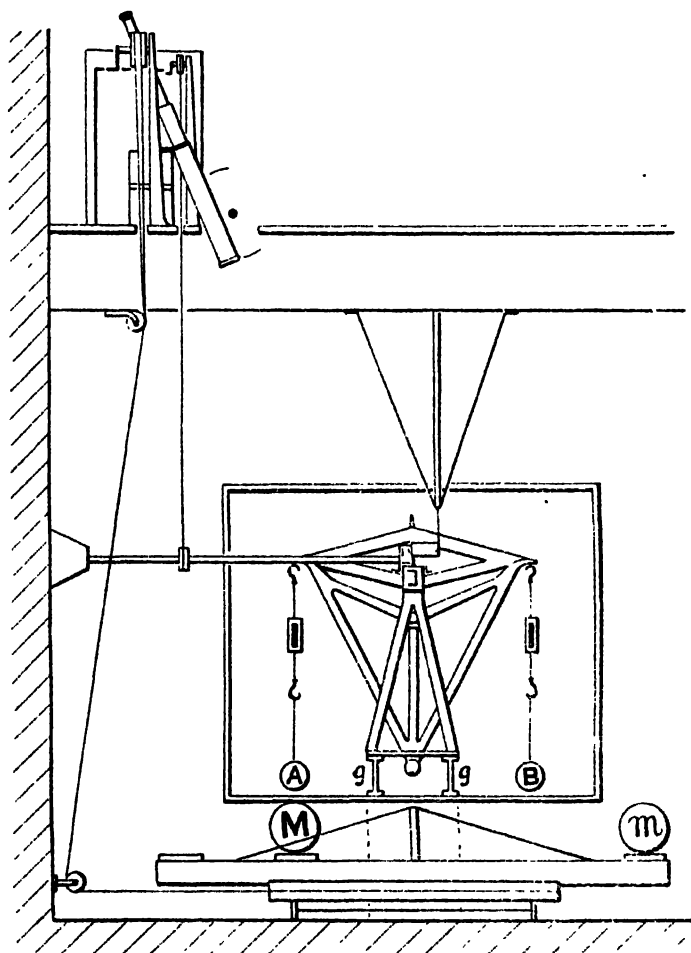

FIG. 69.—Poynting's apparatus (modified from the author's drawing. Phil. Trans. 1897).
No experiment to determine the force of gravitation can be a simple one, because the attraction of two bodies of a size that can be handled and at a reasonable distance from each other is only a thousand-millionth of their weights. Consequently, the balance which will measure this attraction must be far more accurate than even a good chemical balance. All sorts of minute errors have to be allowed for. However, we can at least see the kind of way it can be done. Professor J. H. Poynting in 1890 set up an apparatus like that in Fig. 69. He hung two 40 lb. balls (A, B) of lead from the most delicate balance which would bear such a weight. Under the balance he had a turntable which bore a mass (M) of about 300 lbs. of lead. By swinging this round, he could bring the big mass (M) under either of the smaller masses A or B. The masses attracted each other, and he found the difference between the position of the pointer when M was under A and when M was under B. The attraction of M for A was only about equal to the weight of a fifth of a milligramme (about the weight of a droplet of water, a fortieth of an inch in diameter), and the total load on the balance pans was about 80 lbs., so it is not surprising that the weighing was most laborious.